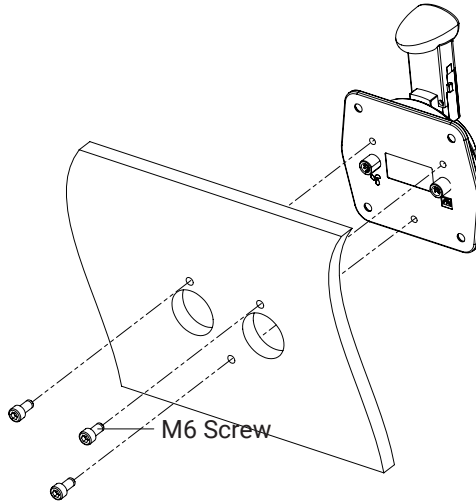

Figure 2-2
2. Fix the throttle to the side of the boat referring to the figure 2-2.